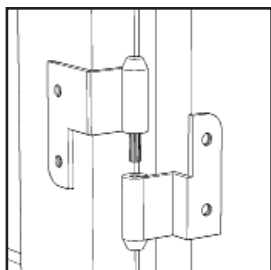

Figure 6
Attach Doors (J) and (K) to unit by sliding the door lift hinges into the side panel lift hinges. (See Figure 6)